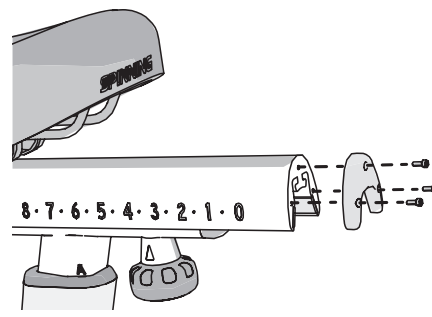

Figure 7
3. Attach the seat slider end cap ⑦ using three bolts ③ (Figure 7) and fully tighten with a hex key ⑧.